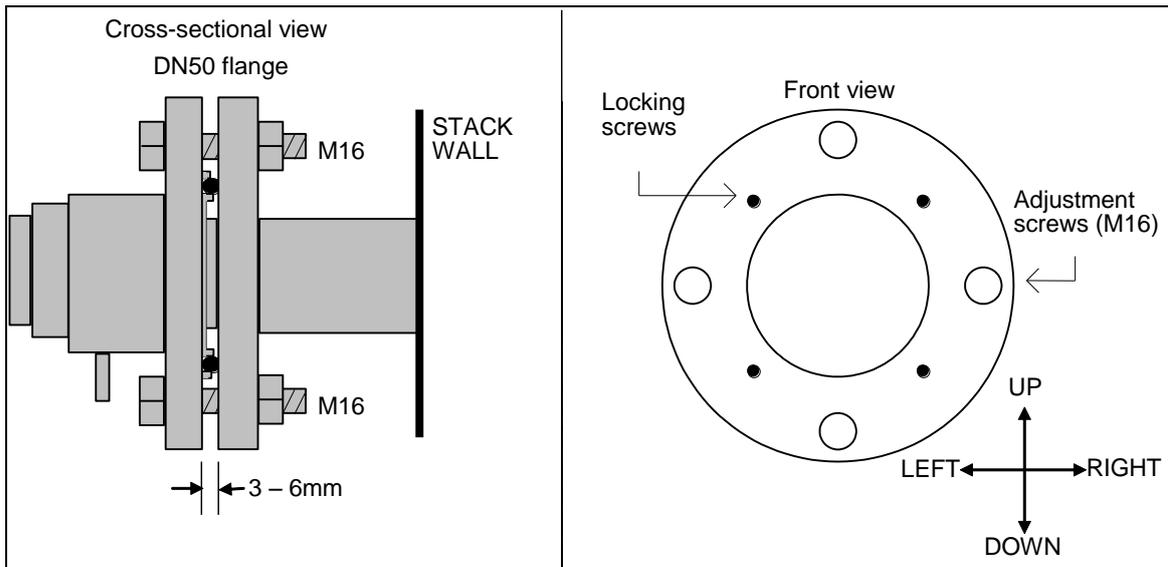

Figure 3-3: Alignment mechanism details
1. Install transmitter alignment/purging flange (5) onto the process flange (12) with the large O-ring and 4 pcs. M16 x 60 bolts (ref. Figure 3-3). Grease threads of M16 bolts with included PBC grease and fasten using nuts and washers supplied. All 4 bolts must be tightened firmly to compress the large O-ring. Use the gap gauge (where available) to set the initial gap to 6mm all around the flange. This assures a uniform and minimum satisfactory compression of the O-ring.
3. Put the window adapter ring (4) on the alignment unit. Make sure that the O-ring on the alignment unit is tight and greased (note, do **not** use the included PBC grease).
5. Affix an O-ring (not greased) to the adapter ring and connect the transmitter unit to the alignment unit. The guiding pin on the adapter ring must fit the hole in the transmitter window. Tighten the transmitter-mounting nut (2), whilst supporting the transmitter unit. Please note after fully tightening the transmitter-mounting nut, do not turn the transmitter unit anticlockwise, as such action can break the thread locking of the TU mechanical parts. If it is necessary to rotate the transmitter unit, first loosen the transmitter mounting nut, then rotate the transmitter unit. Re-tighten the nut again whilst supporting the TU. Please note it is recommended that two people install the TU, one to support the TU whilst the other tightens the mounting nut.
2. Use an IR-card to locate the laser beam on the receiver side. The spot image is hard to detect in daylight - using a black plastic bag for cover will help. If the laser beam cannot be detected, loosen the adjustment screws shown in Figure 3-3 on the transmitter unit and move it carefully from side to side and up and down to locate the laser beam using the IR card. (You will need two people!)
Please note that in order to move the RU field view axis to left direction (see Figure 3.3) one should use the following procedure.
5. For initial adjustment, loosen the adjustment screws shown in Figure 3-3 on the transmitter unit purging flange and move it carefully from side to side and up and down to locate the laser beam in the receiver hole/target window (you may need two people). Always hold and support the transmitter unit when tightening the locking screws and the adjustment screw on the transmitter unit side.
3. Locate the laser beam on the transmitter side target window. Loosen the adjustment screws shown in Figure 3-3 on the receiver unit purging flange and move it carefully (following the procedure described above) from side to side and up and down to locate the laser beam in the transmitter target (you may need two people).